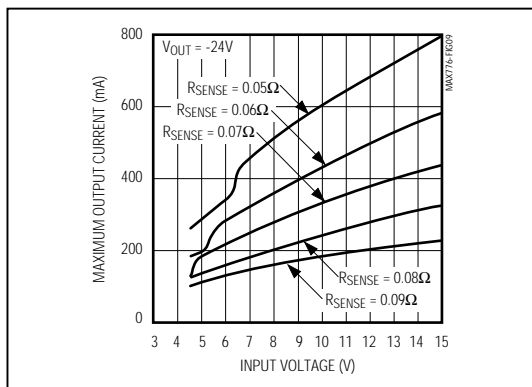

Figure 9. MAX774/MAX775/MAX776 Maximum Output Current vs. Input Voltage ( $V_{OUT} = -24V$ )
- 2) Next, referring to Figure 9, find the curve with the lowest current limit whose output current (with the lowest input voltage) meets your requirements.
The  $R_{SENSE} = 80m\Omega$  (shown in Figure 9) shows only approximately 125mA of output current with a 4V input, so we look next at the  $R_{SENSE} = 70m\Omega$  line. It shows  $I_{OUT} >150mA$  for  $V_+ = 4V$  and  $V_{OUT} = -24V$ . The current limit will be  $0.210V / 0.070\Omega = 3A$ . These curves take into account worst-case inductor ( $\pm 10\%$ ) and current-sense trip levels, but not sense-resistor tolerance. The switch on resistance is  $70m\Omega$ .